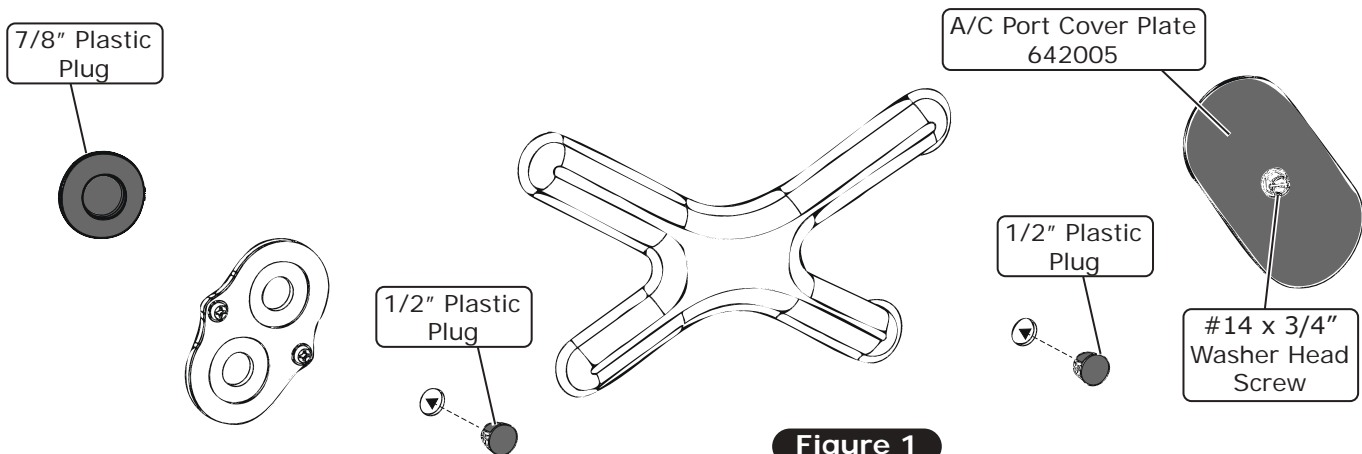

Figure 1
1. From the top of the dash, remove the (2) screws from the OEM defrost ducts (See Figure 1, below).